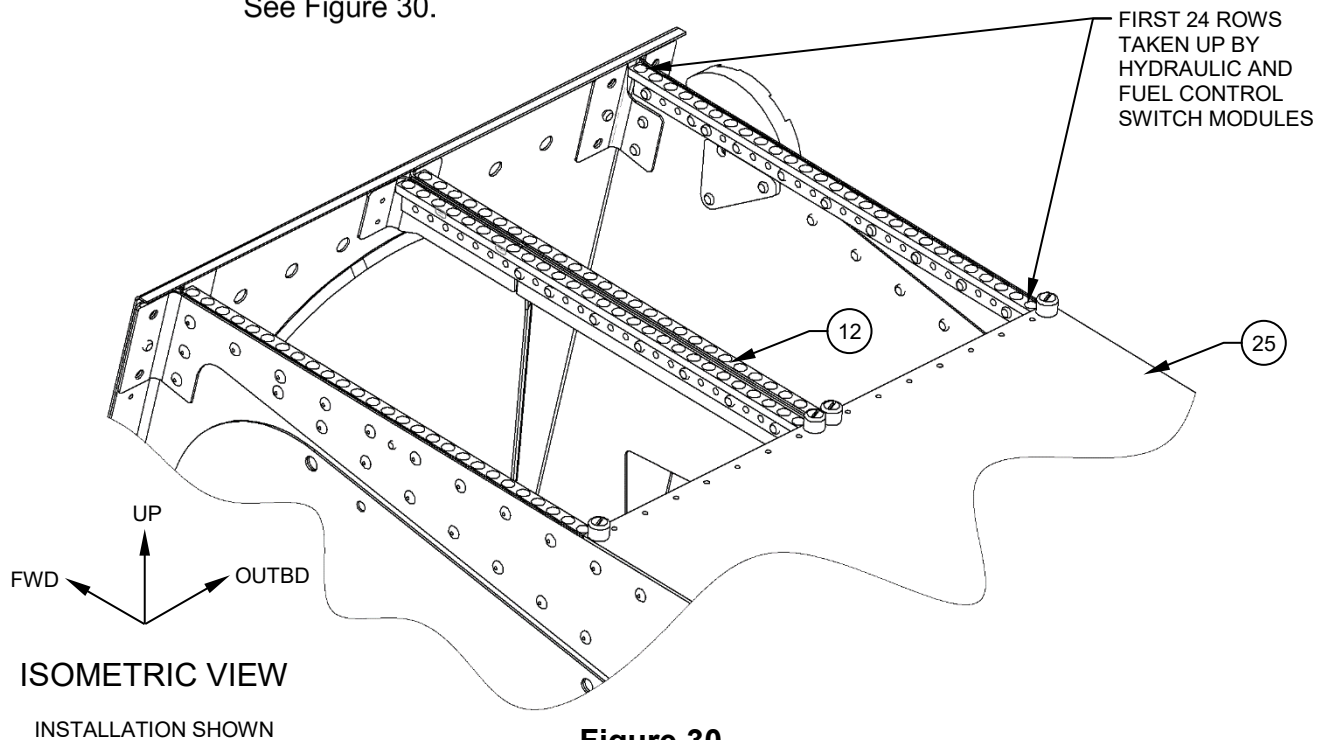

Figure 30
- 6.4.1. The first thing to consider is that the fuel and hydraulic switch control modules take up the first 24 rows of possible Dzus fasteners on the FWD RHS of the pedestal. This makes the first transition from rack mount to panel possible at row 25 or AFT. See Figure 30.
- 6.4.2. For this sample configuration the assumption being made is all avionics directly AFT of the of the fuel control switch module will be of the panel mount style, to the AFT end of the Center Pedestal Riser, Kit. See Figure 30.
- 6.4.3. Temporarily install the Center Dzus Rail, Assy, (Item 12), with 2X Filler, Detail, (Item 40), and the Panel Mount Plate, Assy, (Item 25). Remove and trim the Center Dzus Rail, Assy, (Item 12), after the 25th hole, leaving the edge distance shown. See Figures 30 & 31.